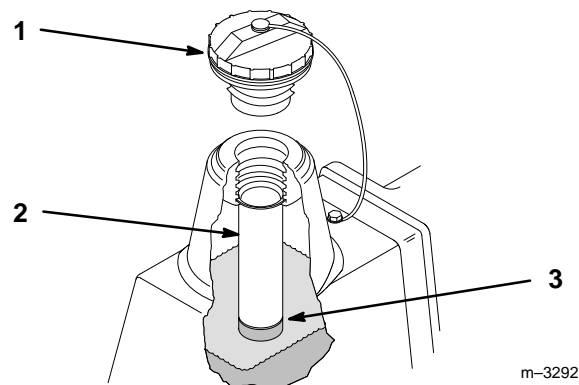

Figure 28
2. Clean area around filler neck of hydraulic tank (Fig. 28).
3. Remove cap from filler neck and look inside to check fluid level. Fluid level should be above the bottom of the screen (Fig. 28).
4. If level is low, add fluid to raise level to above the bottom of the screen (Fig. 28).